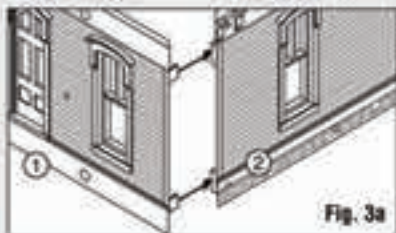
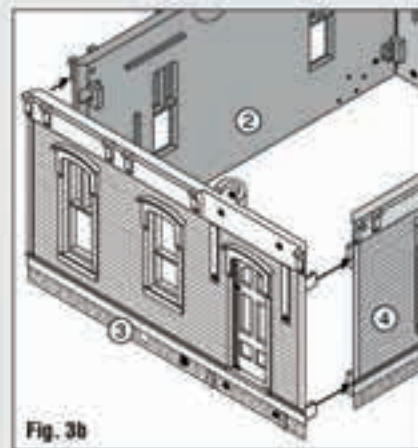

Fig. 3a
Fig. 3b
- Align Front Wall (1) with Right Wall (2) and snap together (Fig. 3a).
- Align Left Wall (4) with Front Wall (1) and snap together.
- Align Back Wall (3) with Right Wall and Left Wall and snap together (Fig. 3b).